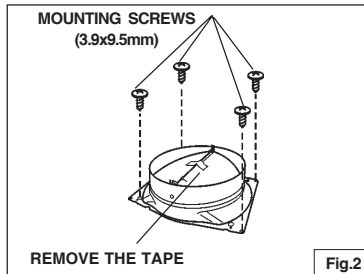

Fig.2
1. Install the damper duct connector onto the hood using mounting screws (3,9x9,5mm) as shown in Fig.2.
2. Remove the tape located on the damper. See Fig.2.